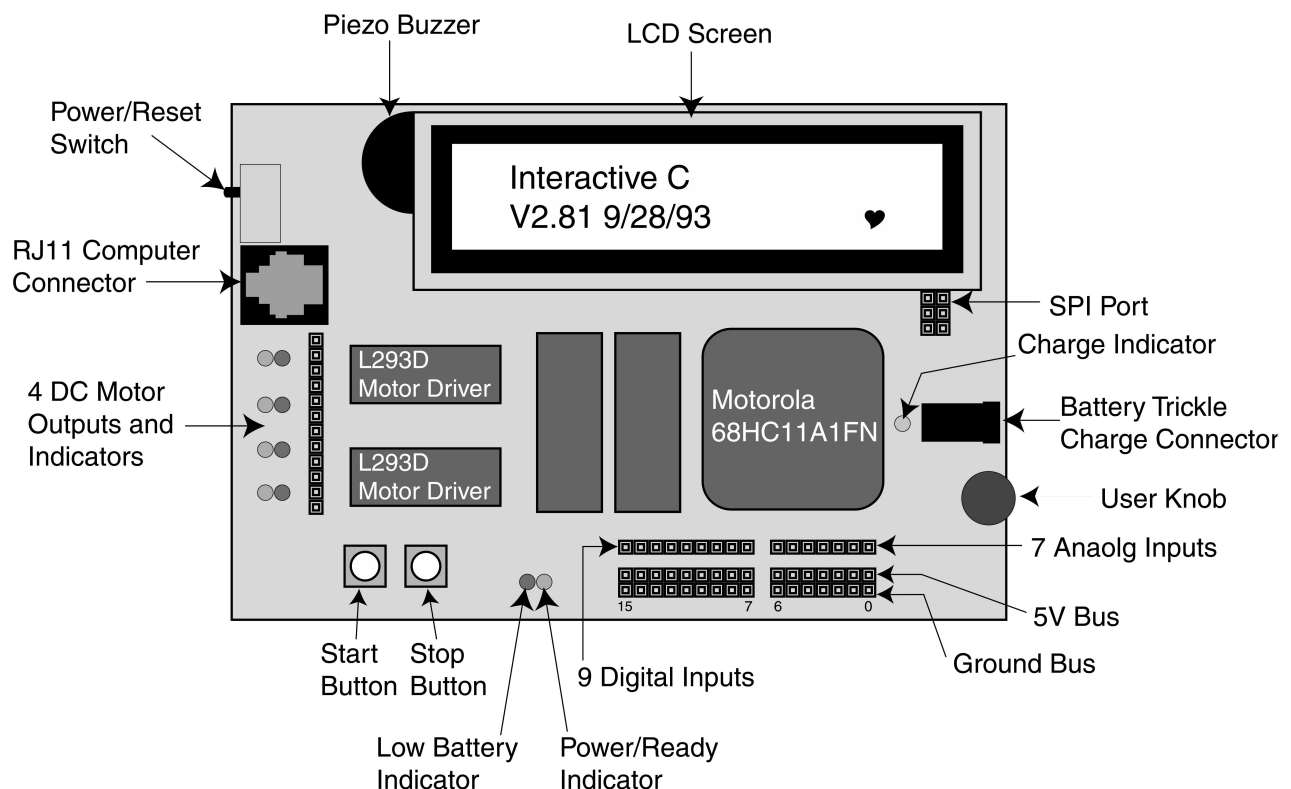

Figure 1: A labeled diagram of the Handy Board's major features.
The Handy Board is a small single board computer developed by Fred Martin of the MIT Media Laboratories. The main features of the Handy Board are a Motorola 68HC11 microprocessor chip, four DC motor outputs, seven 8-bit analog inputs, nine digital inputs, a 16x2 character LCD screen, and an internal 9.6 Volt NiCad battery pack. The Handy Board is programmed using Interactive C, a C programming language, developed by Randy Sargent of MIT. A diagram of the Handy Board depicting its main features is shown below in Figure 1. The following sections describe some of the basic steps needed to prepare the Handy Board for programming and the more useful pre-programmed functions of the Handy Board. More detailed information about the capabilities of the Handy Board and its programming interface can be found at the Handy Board web site (<http://handyboard.com>) and on the mechatronics class webpage under project handouts. The *Handy Board Technical Reference* and the *Interactive C for the Handy Board Manual* in the Docs section are of particular value for understanding the Handy Board and using it robotic control applications.
- a. Connecting one end of the RJ11 modular cable into the computer connector port on the Handy Board (see Figure 1) and the other end into the Serial Interface & Battery Charger Board.
3. Turn on the Handy Board using the Power/Reset Switch (see Figure 1).
Turns on motor port `m` at power level `p`. There are four motor ports on the Handy Board, labeled Motor-0, Motor-1, Motor-2, Motor-3 (see Figures 1 and 3 for location). The power level ranges from 100 for full forward to -100 for full reverse. Although the range of power levels goes from -100 to 100 in increments of 1, there are actually only 15 motor speeds (See Table 2 below).
Refer to Figure 1 for the location of the analog and digital ports. Note that these ports are the top of the three strips in that area, and are numbered from right to left. The bottom strip is ground, and the middle strip is a +5 volt supply voltage that can be used to power sensors. The top strip is for the sensor signal (this is the value that will be read by the **analog** and **digital** functions). All the analog input ports are connected to the five-volt bus through an internal 47-kΩ pull-up resistor. This internal resistor can change the behavior of some sensors. Specifically, a voltage divider is created when one lead of an analog sensor is inserted into an analog input and the other into ground (refer to Lab 3 for a description of a voltage divider). The voltage across the internal pull-up resistor is the voltage read by the eight-bit ADC of the Handy Board.
This function returns the position of the user knob (see Figure 1) as a value between 0 and 255. The knob is a potentiometer whose wiper is connected to an 8-bit analog-to-digital converter. This potentiometer divides the voltage between the five-volt bus and ground.
This function returns the value of the button labeled "Start" (see Figure 1): 1 if pressed and 0 if released.
This function returns the value of the button labeled "Stop" (see Figure 1): 1 if pressed and 0 if released.